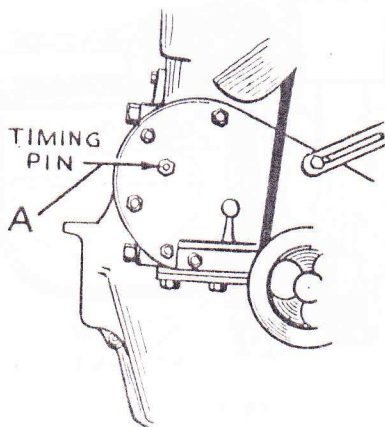

Fig. 1
Ford Model A 1928-30.—To time the spark to the motor, remove the timing pin (A) Fig. 1 from the timing case cover and insert the small end of the pin in the hole from which it was removed. Crank the motor and at the same time exert a slight pressure on the outer end of the timing pin until the pin drops into the recess in the camshaft gear. When the pin drops into the recess it will indicate that No. 1 piston is at T.D.C. of the compression stroke or at the firing point. Place the hand spark control in the full retard position. Locate the distributor so that the points just break contact and the rotor is at the terminal of the wire leading to the No. 1 spark plug.